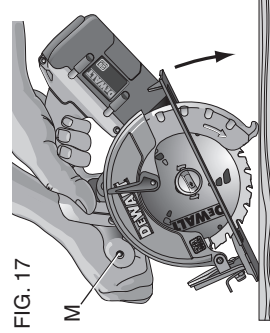

FIG. 17
POCKET CUTTING (FIG. 17)
4. Release the blade guard/its contact with the work will keep it in position to open freely as you start the cut). Remove hand from guard lever and firmly grip auxiliary handle, (M) as shown in Figure 17. Position your body and arm to allow you to resist kickback if it occurs.